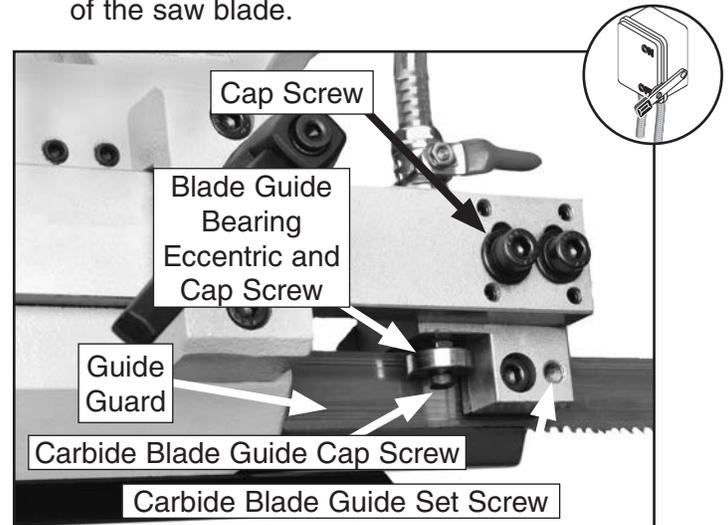

Figure 44. Upper blade guide adjustments.
4. Remove the two Phillips head screws and the blade guide guard, (see **Figure 44**).
6. Loosen both of the cap screws (**Figure 44**) and push the guide bearing housing down until the upper carbide pad rests on the back of the saw blade.
- Loosen the carbide guide cap screw and use the set screw (**Figure 44**) to set the carbide guide clearance to zero, but do not tighten the set screw so the carbide guides pinch the blade.